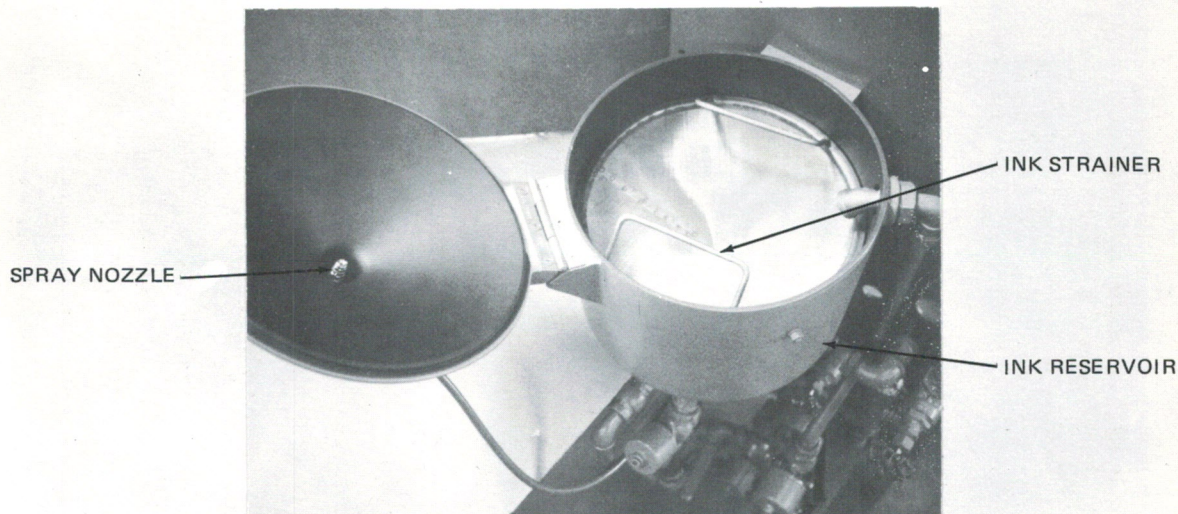

FIGURE 10-4. INK RESERVOIR
4. INK RESERVOIR AND FILTER (Figure 10-4)
A wide-angle spray nozzle (Figure 10-4) inside the ink reservoir cover cleans the underside of the cover and reservoir.
Step 4) Remove filter (Figure 10-4) from ink reservoir and close lid.